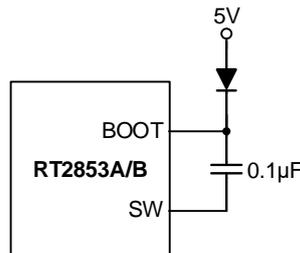

Figure 5. External Bootstrap Diode
**External BOOT Capacitor Series Resistance** The internal power MOSFET switch gate driver is optimized to turn the switch on fast enough for low power loss and good efficiency, but also slow enough to reduce EMI. Switch turn-on is when most EMI occurs since VSW rises rapidly. During switch turn-off, SW is discharged relatively slowly by the inductor current during the deadtime between high-side and low-switch on-times. In some cases it is desirable to reduce EMI further, at the expense of some additional power dissipation. The switch turn-on can be slowed by placing a small (<10Ω) resistance between BOOT and the external bootstrap capacitor. This will slow the high-side switch turn-on and VSW's rise. To remove the resistor from the capacitor charging path (avoiding poor enhancement due to undercharging the BOOT capacitor), use the external diode shown in Figure 5 to charge the BOOT capacitor and place the resistance between BOOT and the capacitor/diode connection.